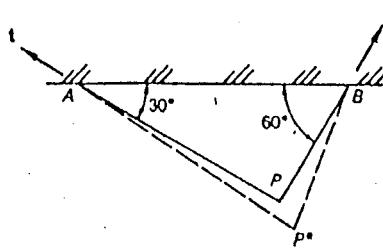

Fig. P2.34
2.34. A thin plate is in the form of a 30° - 60° - 90° triangle and is supported along its hypotenuse as shown in Fig. P2.34. It is subjected to the uniform strains $\epsilon_x = .004$, $\epsilon_y = .003$. Compute the approximate value of $\gamma_{uu}(P)$.